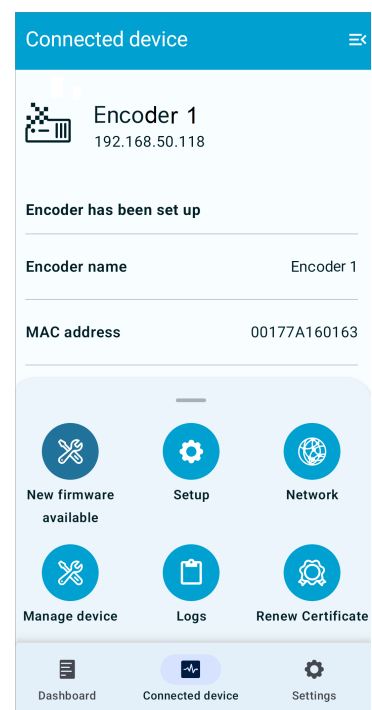

Figure 24
Upgrade version: If the icon **New firmware available** in the action menu (Figure 24) has a darker blue color than the other icons in the menu, one or more of the apps are available in a later version than the one installed.
4. Figure 24: Via the action menu it is possible to perform several other actions than firmware upgrade; see chapter 3 for more information.
By dragging the handle above the bottom menu in any Vostio Service Tool view, an action menu will be displayed. The available operations will depend on what state the encoder is in; set up for the current site, set up for other site etc. In the normal scenario that the encoder is set up for the current site, the actions in Figure 24 are displayed (click the available icon and follow any instructions on the screen):
1. If any operation in the web interface (see chapter 7) should be done, e.g. upgrading Linux firmware, click the **Manage device** icon in the screen shown in Figure 24. A one-time password for the encoder web interface will be shown; see example in Figure 28.
- View logs for Linux firmware and encoder apps (can also be viewed in Vostio Service Tool; choose the **Logs** icon displayed in Figure 24)
2. Choose the **Manage device** icon in the action menu shown in Figure 24; a screen as in Figure 36 will be shown*. The username is the login username for Vostio Service Tool. The password is a one-time password which can be used for logging into the encoder web interface; see step 7 below.